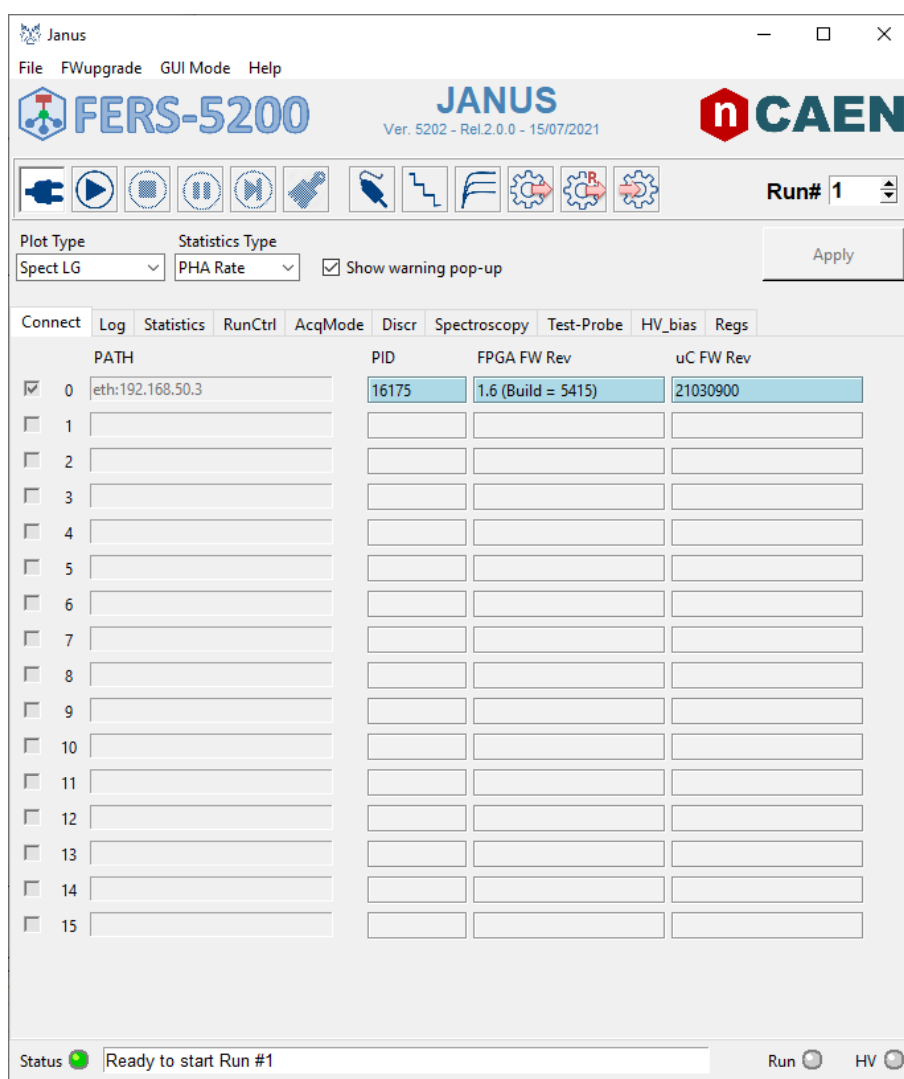
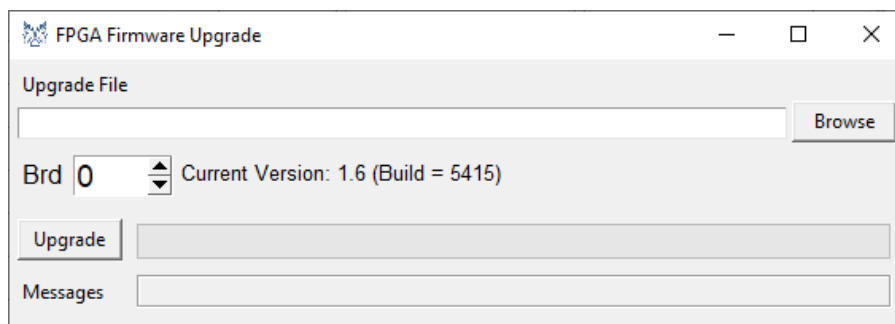

Fig. 11.1: A5202 board connected with the old version of FPGA firmware loaded.
Fig. 11.2: FPGA Firmware Upgrade window.
1. Connect the board to the Janus software according to the instructions reported in Sec. 10.3 either via USB or Ethernet (see Fig. 11.1).
2. Click on the "FWupgrade" drop-down menu that is present on the Janus Menu Bar (see Fig. 11.1). The "Upgrade FPGA" option is visualized. By clicking on it, a window similar to that reported in Fig. 11.2 is opened.